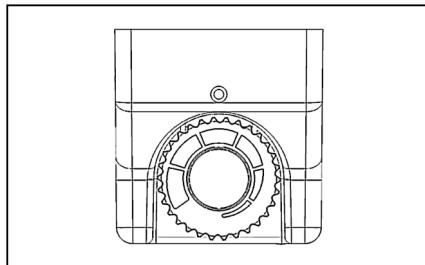

Figure 4.
5.2. Temperature regulation (fig. 4.)
The usual setting required is in the region of the middle of the thermostat knob (Fig. 4), but this can vary with conditions of load and installation. If it is found necessary to change the setting, the knob can be turned to a higher symbol to give a lower temperature, or a lower symbol to give a higher temperature. The effect of any adjustment can be checked by means of a thermometer when the refrigerator has reached the new temperature after some hours.
Fuzzy logic and times switch defrosting (fig. 4)